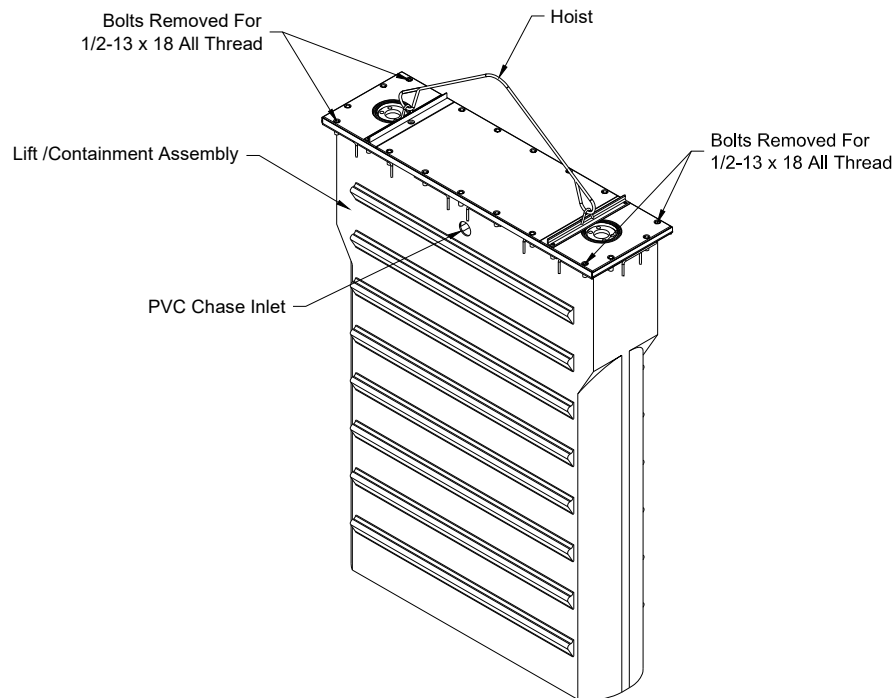

Fig. 3
1. For best balance of lift / containment assembly while lowering into excavation, sling using the shipping straps provided. See Figure 3. **DO NOT** remove or loosen any of the bearing assembly bolts at this time.
3. Remove the outer two bolts from each end of the center cover plate and replace with 1/2-13 x 18 threaded rods. Attach two 6 x 6 timbers using 1/2-13 nuts and washers, to support the lift / containment assembly on the existing floor or forms. Remove the shipping straps and replace the bolts. Torque the bolts to 60 ft-lbs. Bend concrete tie anchors out 90 degrees and down 45 degrees. Refer to **Figures 3 and 4**.